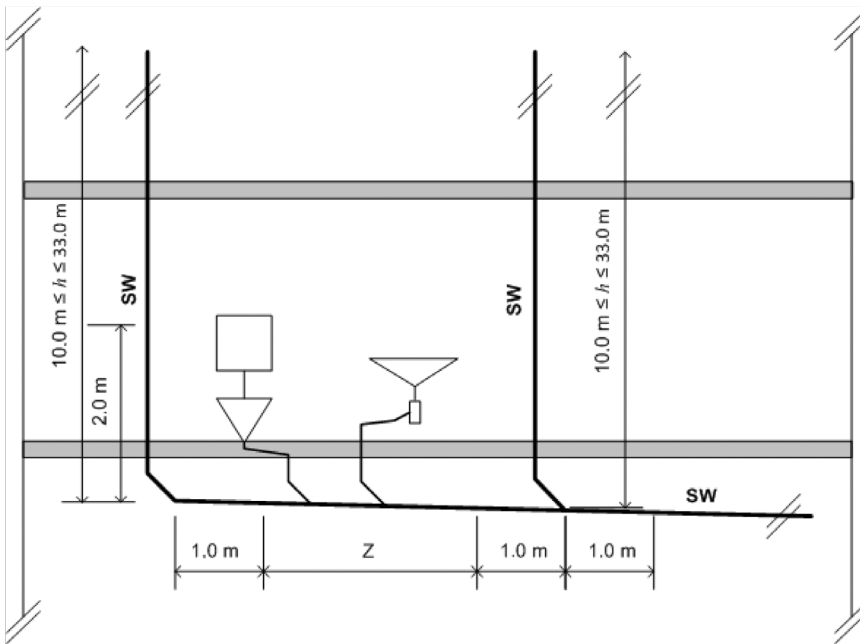
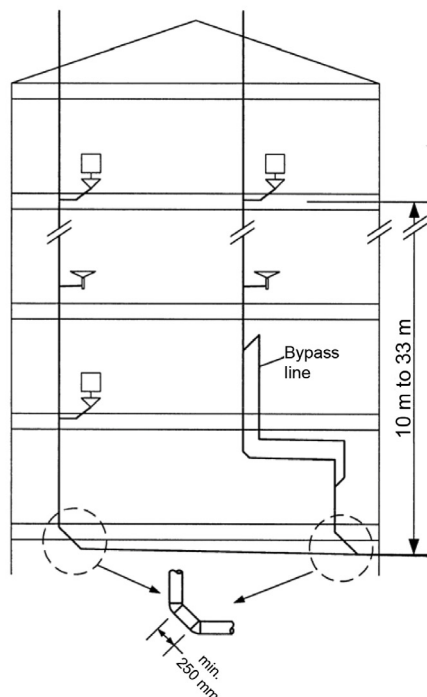

Figure 2: Connection-free zone at junction into the collecting or underground pipe; taken from ÖNORM B 2501: 2015-04-01 (Figure 11).
Figure 3: Junction of downpipes (10 m to 33 m drop height) into a collecting pipe; taken from ÖNORM B 2501: 2015-04-01 (Figure 14).
- At drop heights from 10 m to a maximum of 33 m, the downpipe (Fig. 2) must be kept clear of all connections up to a height of 2.0 m, measured from the channel bottom of the downpipe warping or the collecting or underground pipe. At the junction with a collecting or underground pipe (Fig. 2), a range of 1.0 m, measured from the deflector bend or from the junction of the downpipe, must be kept free of connections. The junction of the downpipe into a collecting or underground pipe must be designed with two 45° bends and an intermediate piece with a length of 250 mm (Fig. 3).